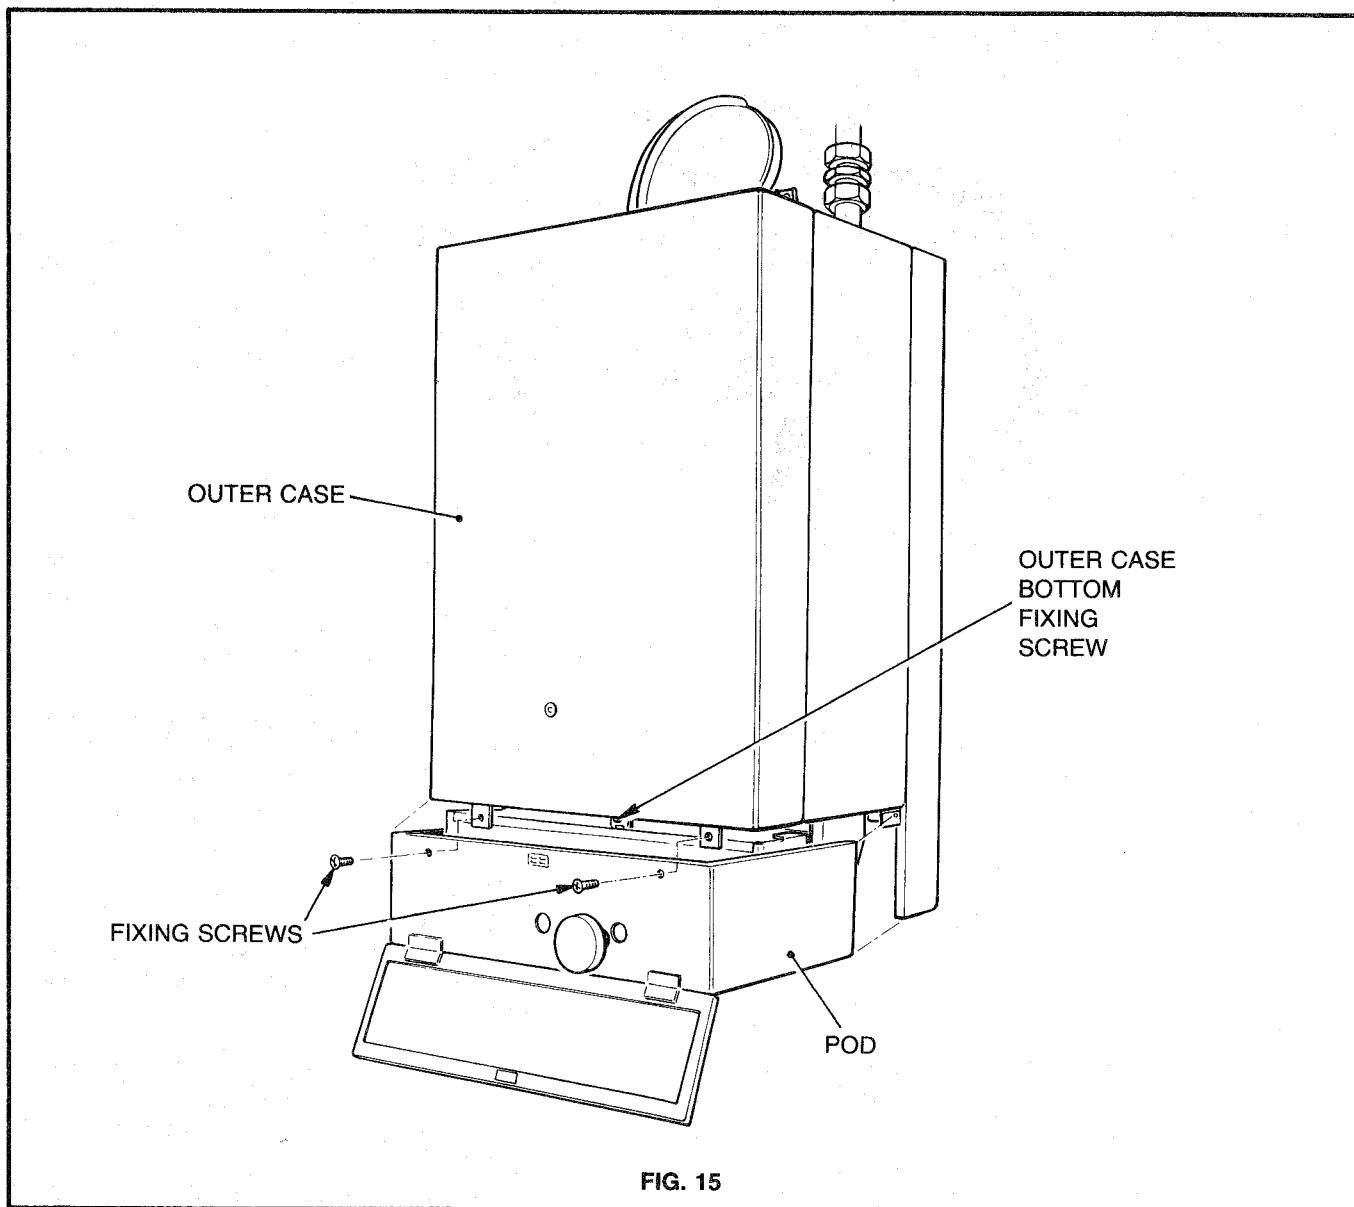

FIG. 15
After adjustments and commissioning have been completed the lower control pod should be refitted by locating it onto the supports towards the rear and securing it in position with the two self tapping screws. (Fig. 15).
- (b) Ensuring sealed outer case does not fall, remove the three retaining screws (Fig. 15) and lift the outer case clear of the appliance.
- (b) Ensuring the outer case does not fall, remove the three retaining screws (Fig. 15) and lift the outer case clear of the appliance.
- Ensuring the outer case does not fall, remove the three retaining screws (Figs. 15 and 16) and lift the outer case clear of the appliance.